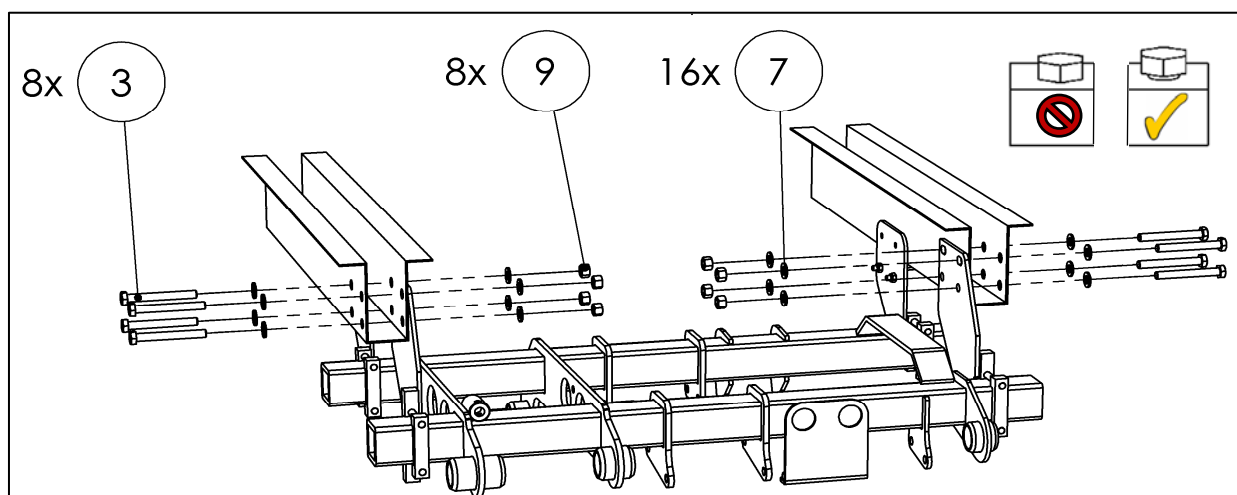

Fig. 28
- Raise the lifting gear. Insert the rear bolts (**installation adapter kit – Part No. 22 911 217 or 22 911 235**) as viewed in the forward direction of travel and tighten until hand-tight as shown in Fig. 28.